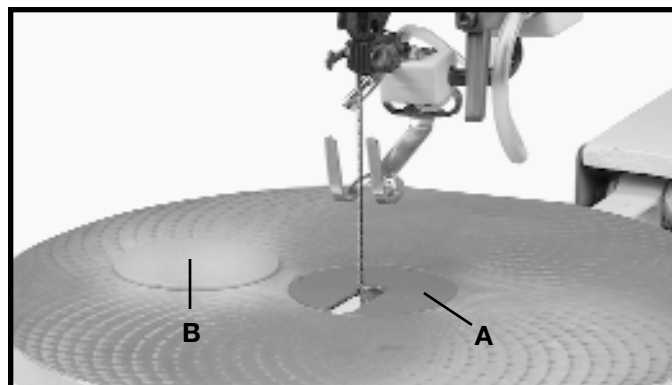

Fig. 21
A table insert blank (B) Fig. 21, is supplied as standard equipment with your scroll saw and can be used when cutting very small workpieces to give added support to the bottom of the workpiece. Cut a slot into the blank and replace the standard insert (A) with the blank (B). The slot cut into the blank (B) will only be as wide as the blade giving maximum support to the bottom of the workpiece.